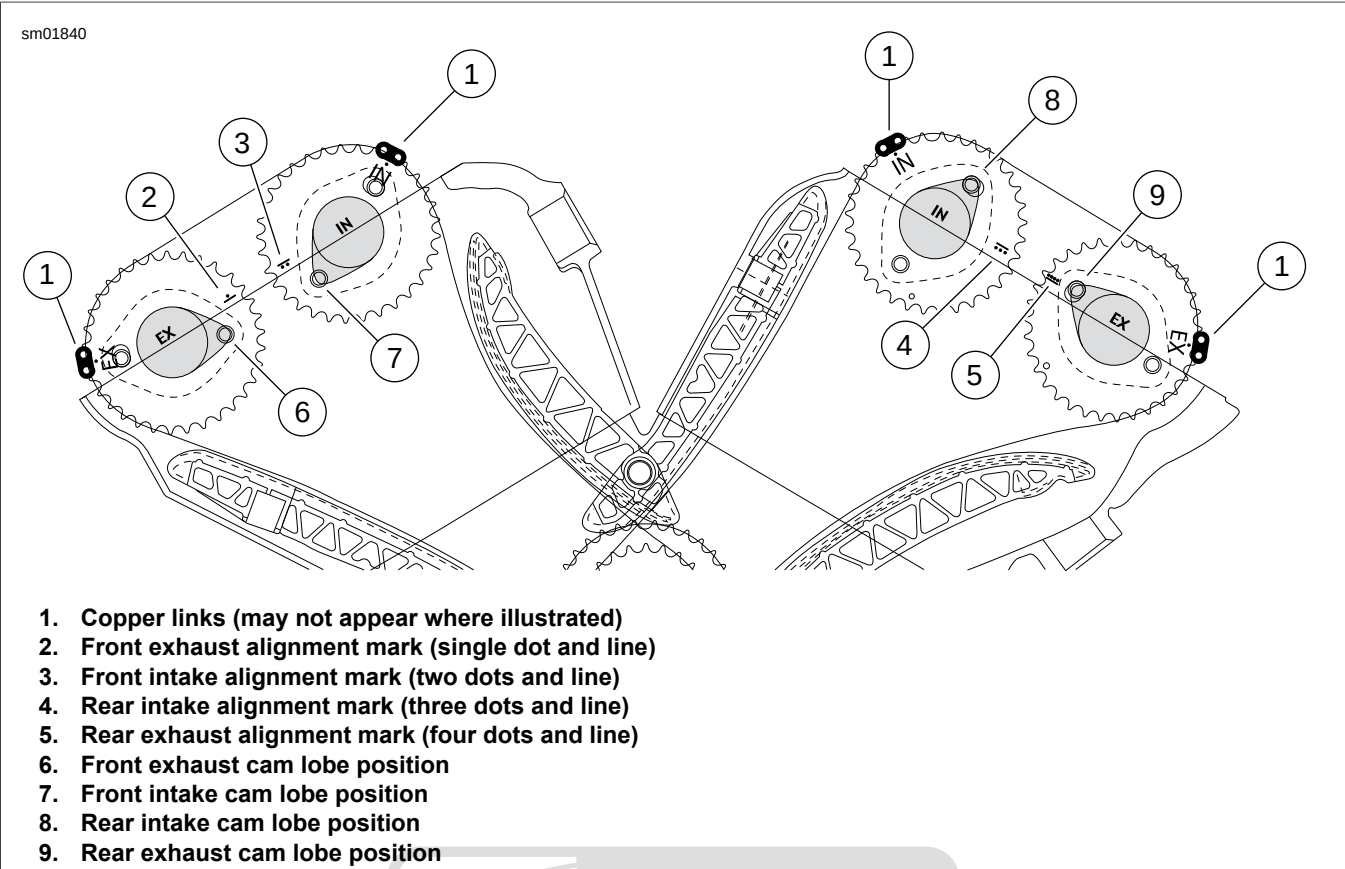

Figure 1-58. TDC Cam Timing Orientation
5. See Figure 1-58. Note position of cam sprocket gear marks and cam lobe positions. At front cylinder TDC, timing is correct when: